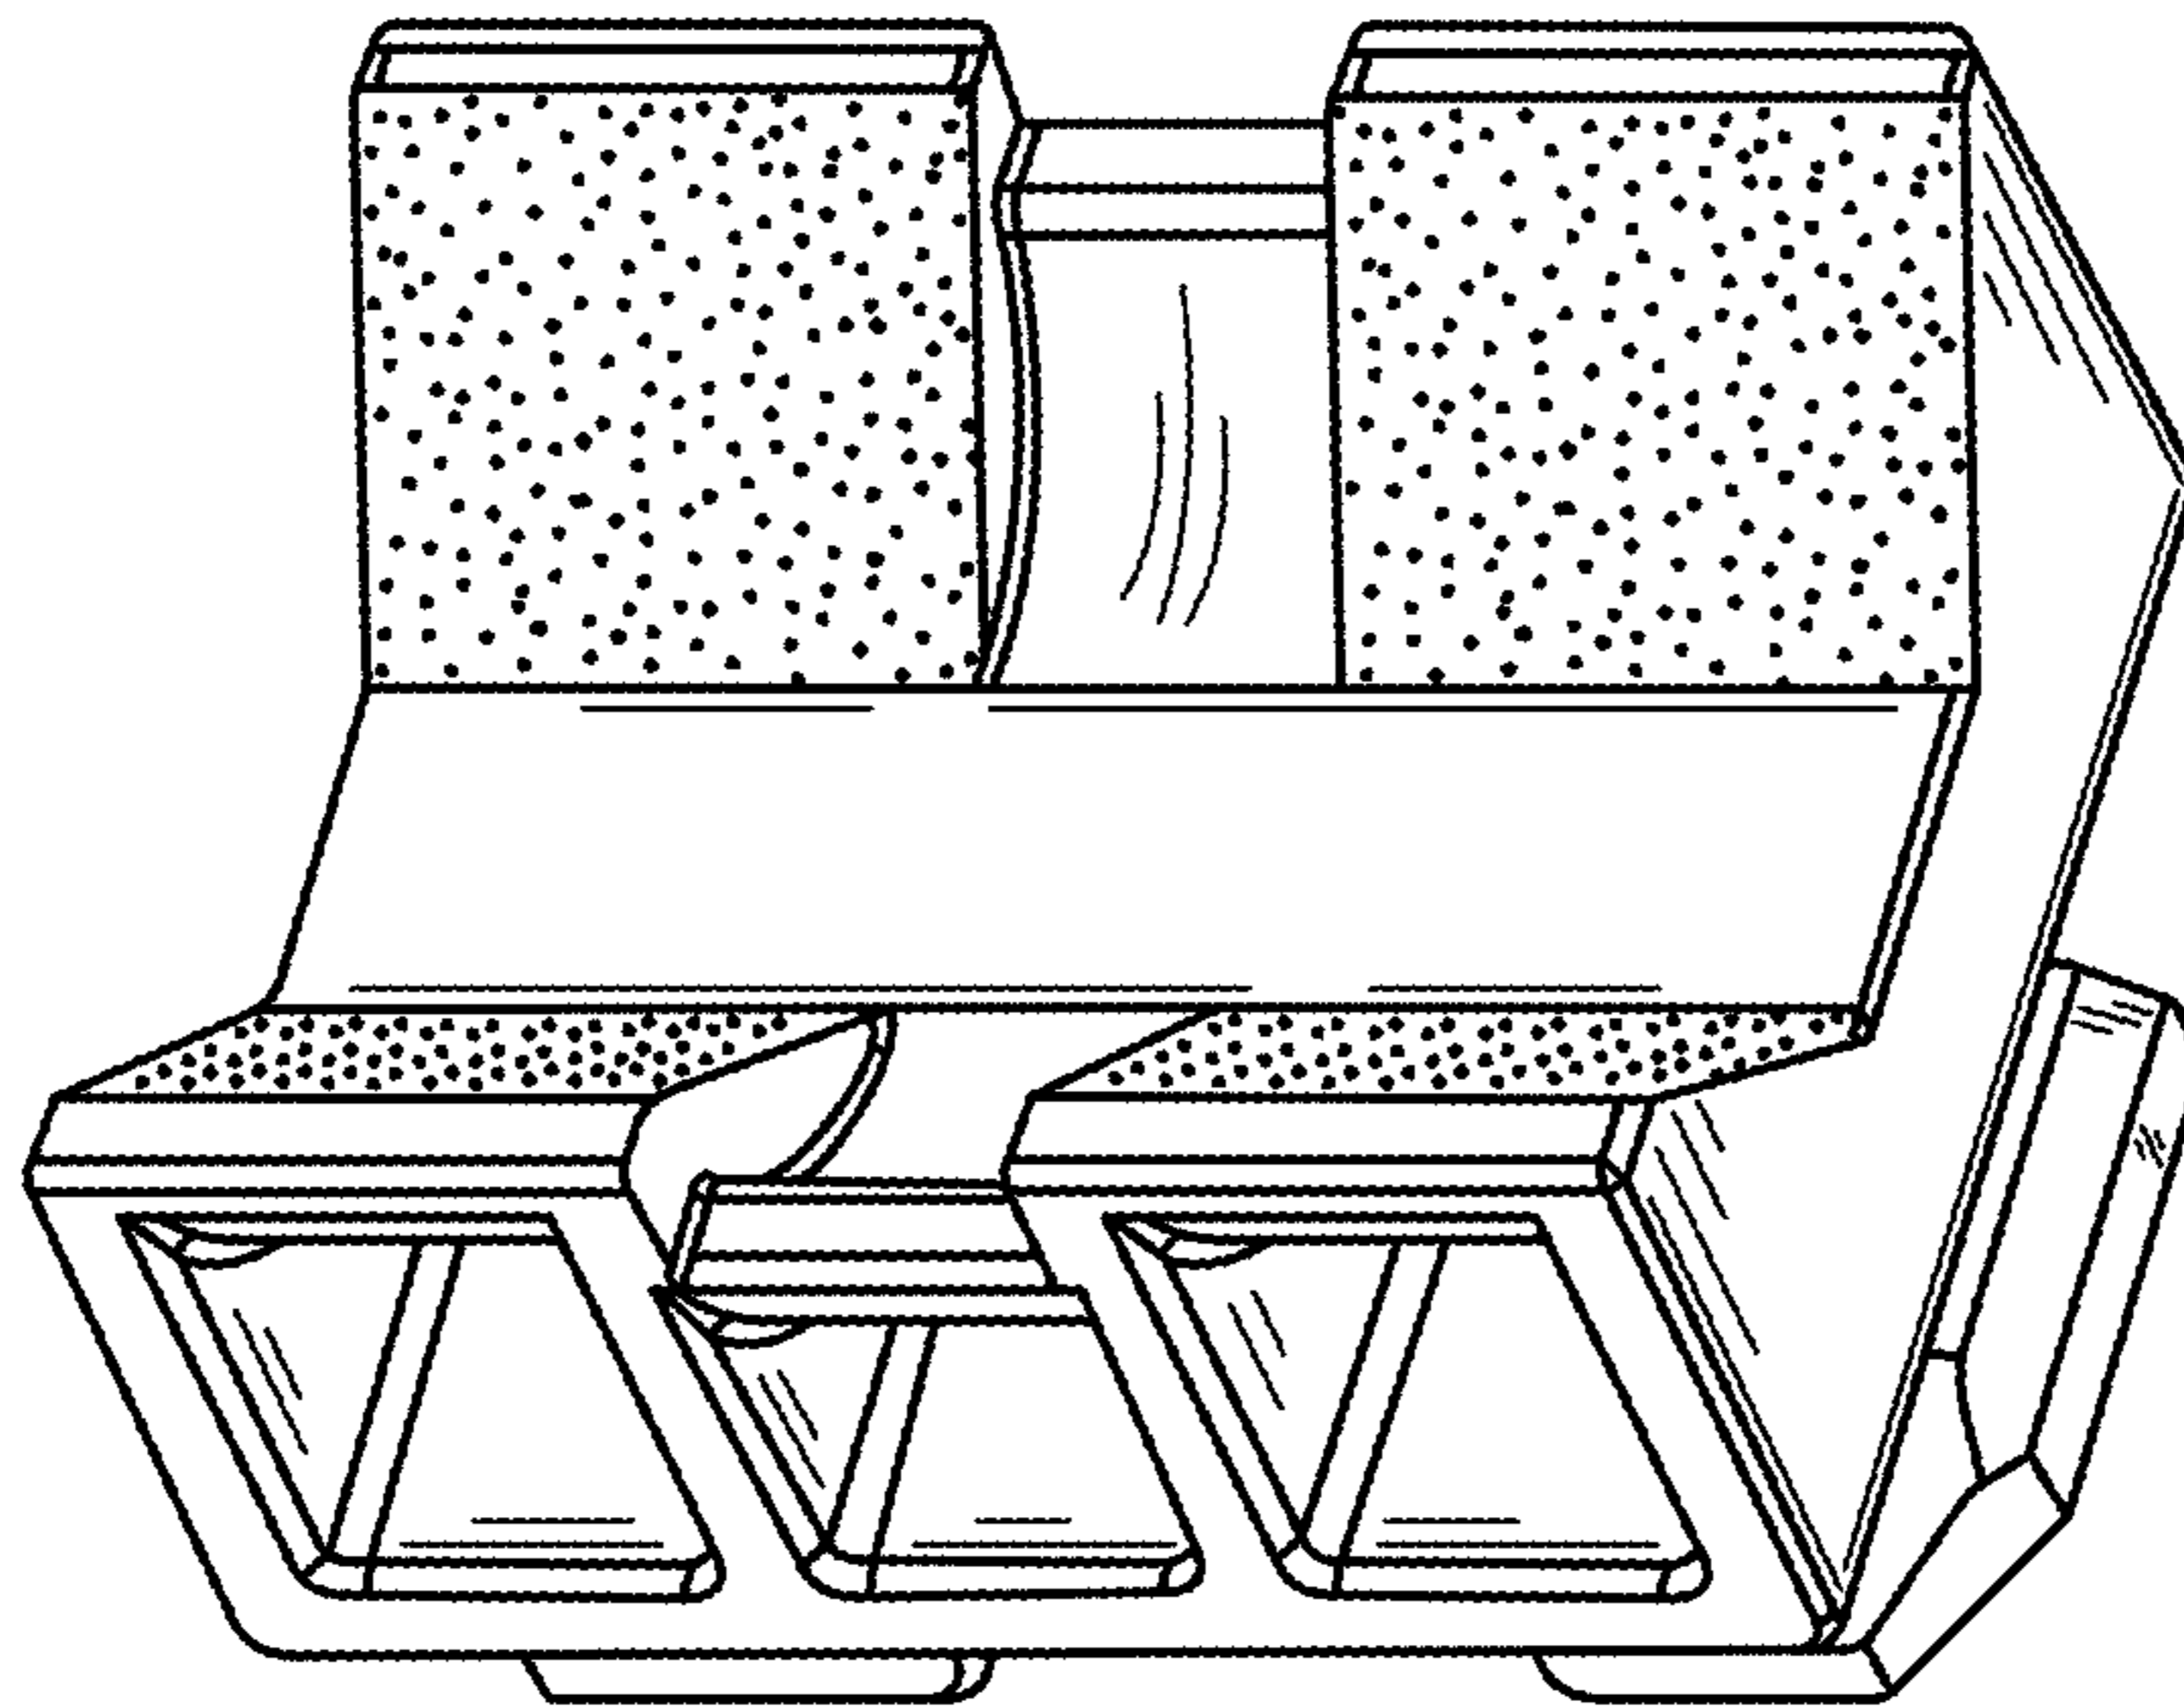

FIG. 7
- FIG. 7 is a perspective view of the pipe clamp.